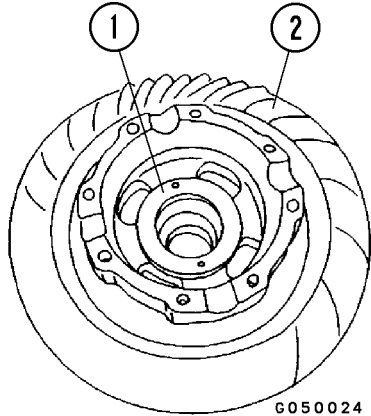

FIGURE 5-25. BEVEL GEAR
3. Turn case over, then align with dowel pin, and install thrust washer (1, Figure 5-25).